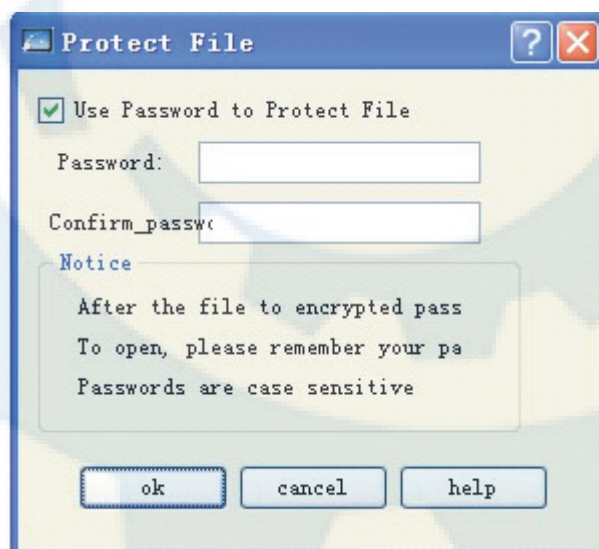

Figure 7-10 Dialog box of file protection
- ◆ Double click the option “Protect File” in “Project Manager” to pop up a dialog box as shown in figure 7-10.